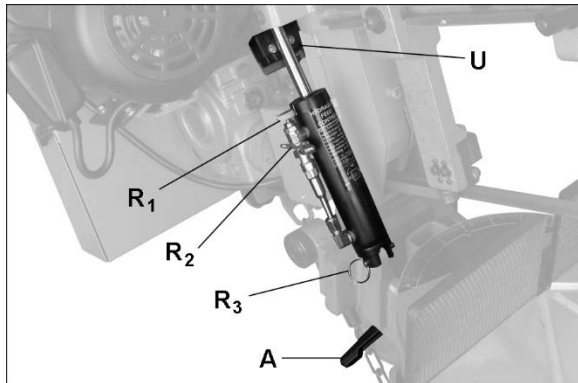

Figure 7-11: feed rate adjustment
To increase feed rate, turn dial (R₁, Figure 7-11) counterclockwise. To decrease, turn clockwise.
3. Pull linch pin (R₃, Figure 7-11) out of cylinder, and raise bow to vertical position. Make sure swivel locking handle (A, Figure 7-11) does not obstruct bow positioning.
- If saw completes cut but blade continues moving, adjust limit switch bracket (U, Figure 7-11) downward.
- If blade stops before cut is complete, adjust limit switch bracket (U, Figure 7-11) upward.